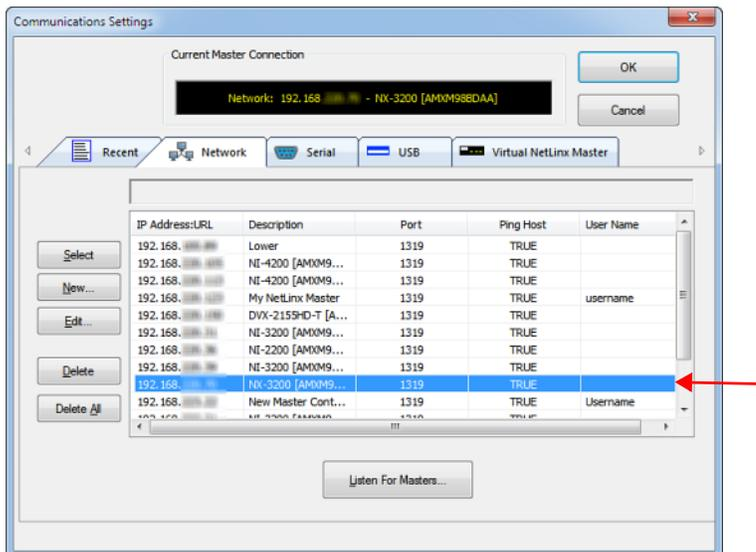

FIG. 19 NetLinX Studio - Communication Settings dialog
6. Click **OK** to close the *New TCP/IP Settings* dialog and return to the *Communication Settings* dialog: (FIG. 19).